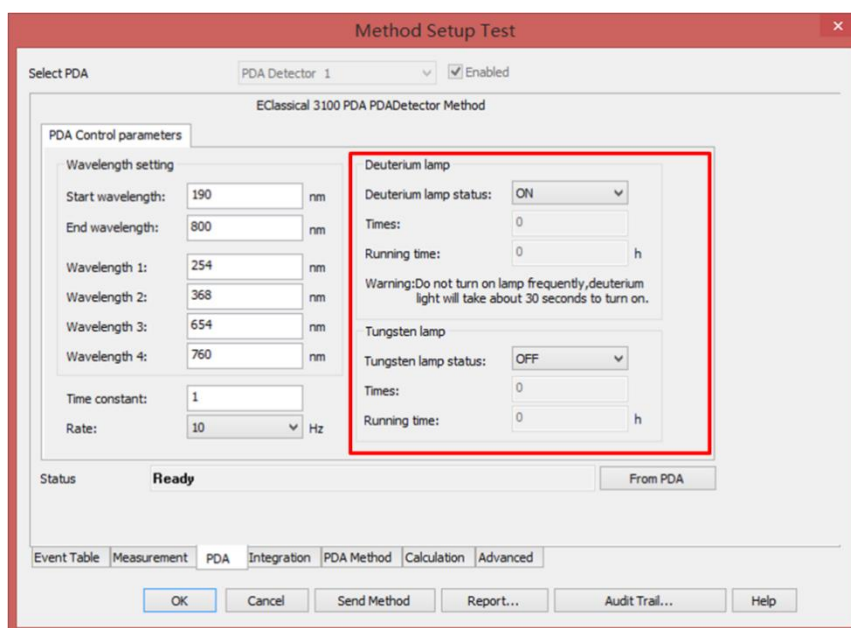

Figure 4-9 Light source setup
- 2) In the method setup window, choose “PDA” tab, and set the status of both lamps (on or off) , as the red frame marked in Figure 4-9.